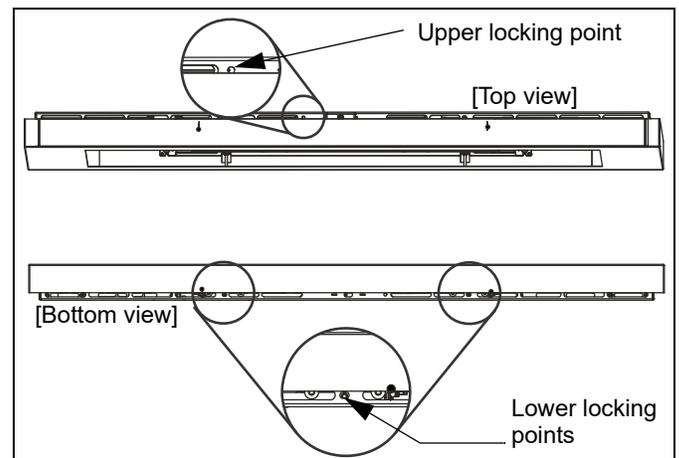

Figure 14
18. Add one 10-24 x 3/8" button head security screw (CB) in hole on top, AND two security screws in two holes on bottom to lock door. (See Figure 14)